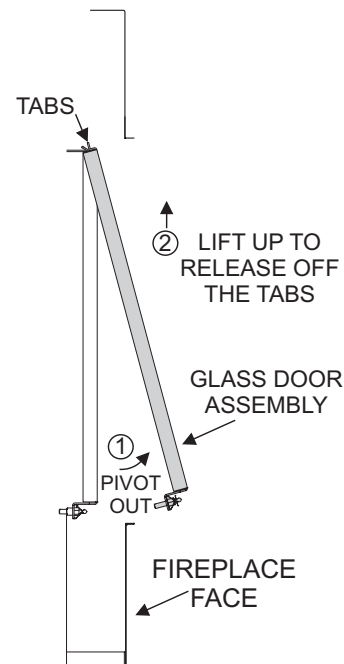

Figure 3
4. Pivot the glass door outward until the bottom of the door opens 6 to 8 inches. Lift upward on the door to disengage the top from the tab retainers at the top. **See Figure 3.**